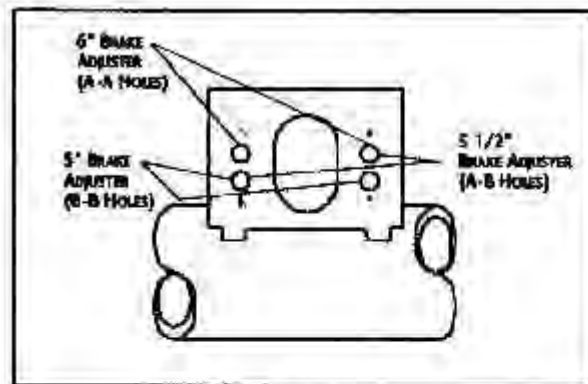

FIG. 4
6. If air brake chambers are replaced, the correct mounting holes must be used to correspond to brake adjuster length (See Fig. 4).